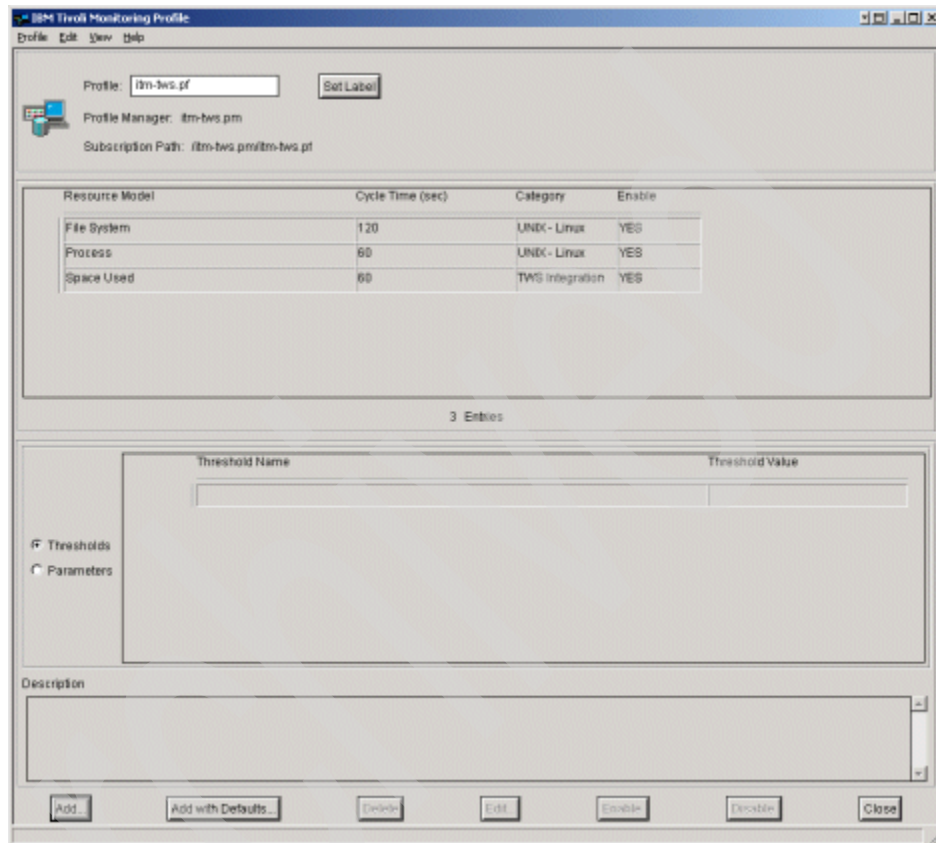

Figure 9-129 Space Used custom resource model added to itm-tws.pf ITM profile.
9. Select **Add & Close**. You are returned to the Tivoli Monitoring Profile window for the itm-tws.pf profile, with the Space Used resource model added to the Resource Model list, as shown in Figure 9-129.